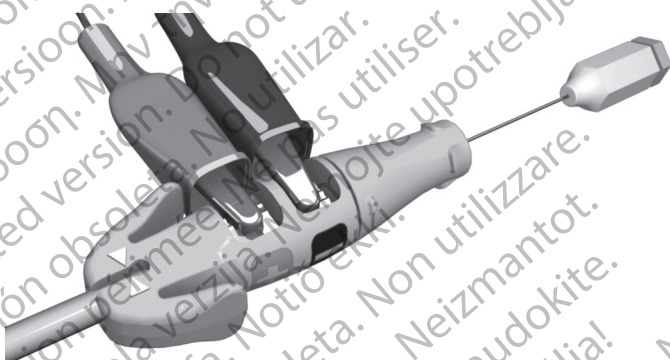

Figure 9. PSA clips attached to Connector Tool
- Attach the PSA cable alligator clips to the Connector Tool cathode (–) spring contact and anode spring contact (+). Use of the Connector Tool will protect the terminal pin from alligator clip damage and prevent bridging between terminal contacts. Fully engage the alligator clips on the cathode and anode spring contacts to avoid inaccurate baseline measurements (Figure 9 PSA clips attached to Connector Tool on page 21).